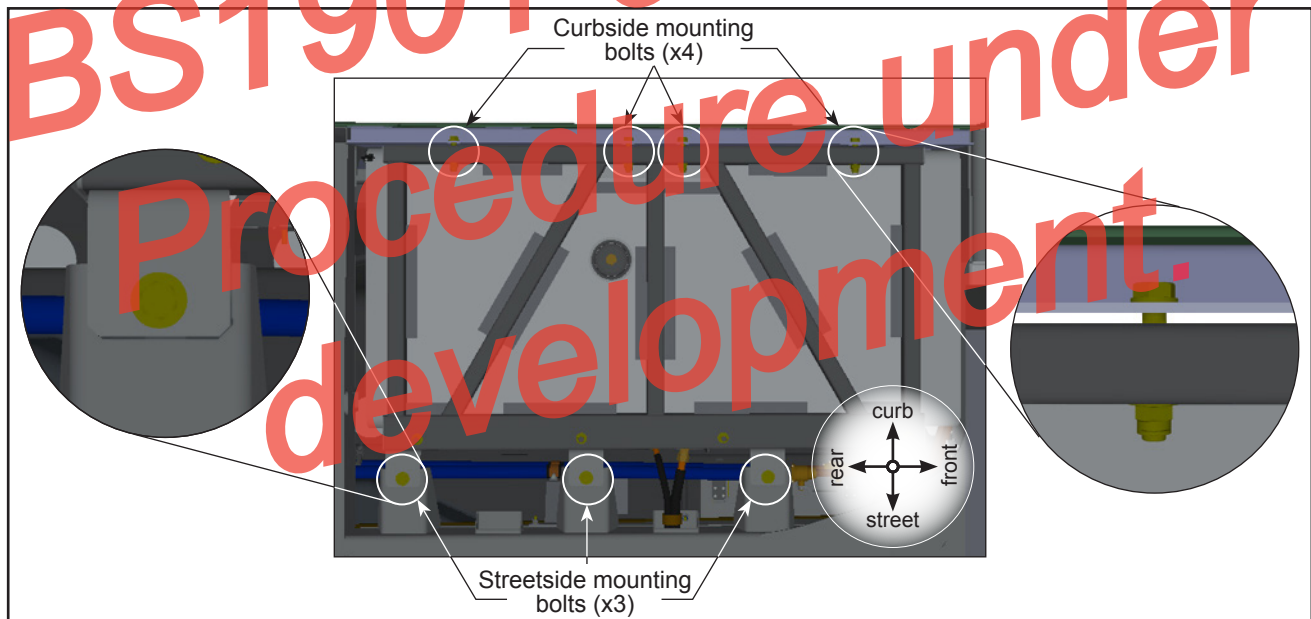

Figure 1 - Fuel Tank Mounting Hardware (As Seen From Below the Vehicle)
1.2. Locate the fuel tank. Lightly loosen, and leave in place, the four curbside mounting bolts. See Figure 1.